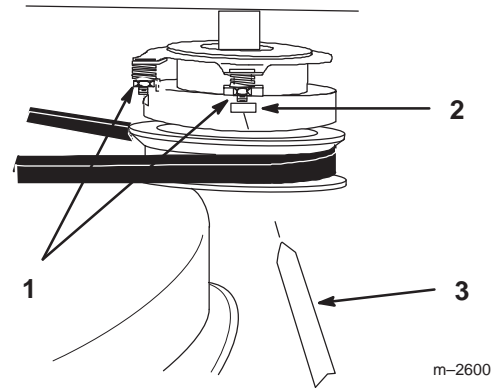

Figure 54
1. To adjust clutch, tighten or loosen lock nuts on flange studs (Fig. 54).
2. Check adjustment by inserting feeler gauge thru slots next to studs (Fig. 54).